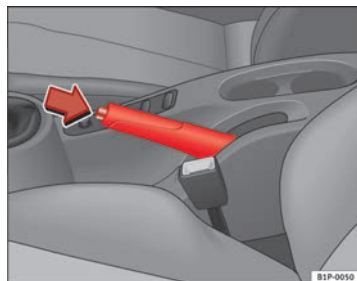

Fig. 129 Handbrake between the front seats
- Pull the handbrake lever up firmly ⇒ fig. 129.
- Pull the lever up slightly and press the release knob in the direction of the arrow ⇒ fig. 129 and guide the handbrake lever down fully ⇒ ⚠.